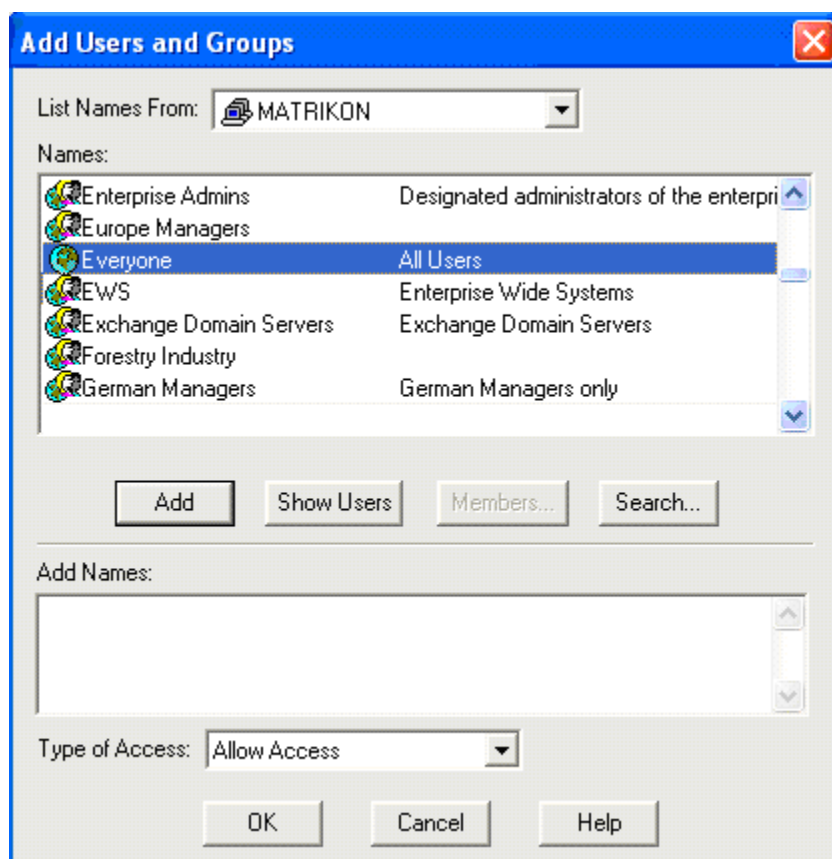

Figure 38 - Add Users and Groups Window
10. The **Add Users and Groups** window (Figure 38) appears.